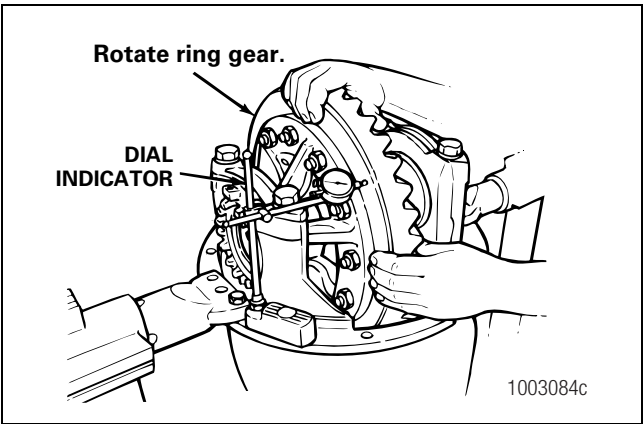

Figure 5.42
1. Attach a dial indicator onto the carrier mounting flange. Figure 5.42.
2. Adjust the dial indicator so that the plunger or pointer is against the back surface of the ring gear. Figure 5.42. Set the dial indicator to ZERO.